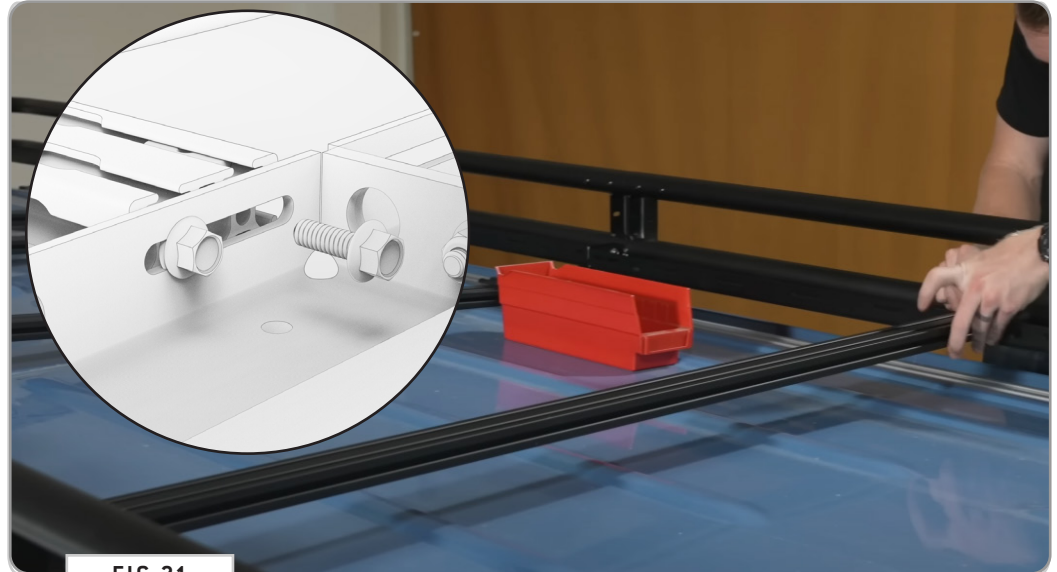
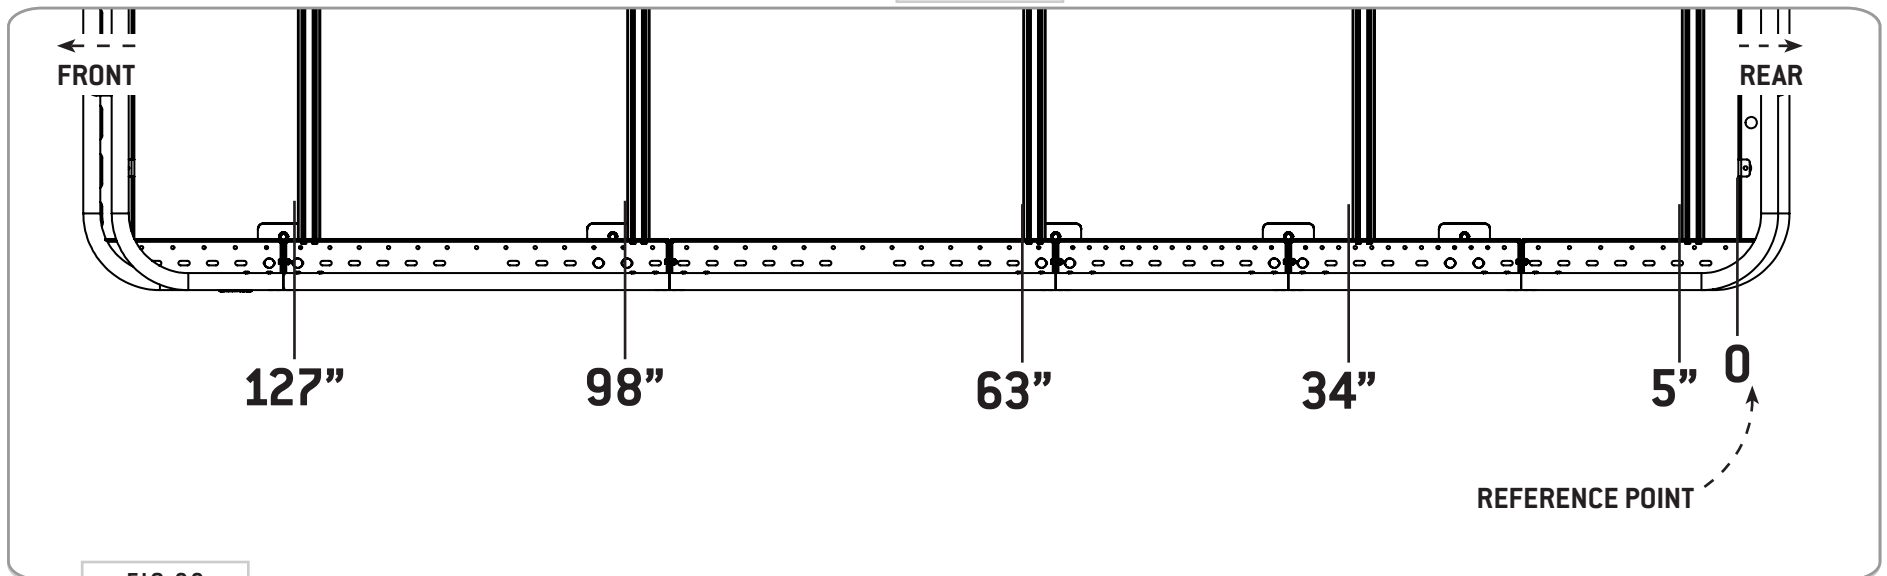

FIG 21
FIG 22
9.1 Attach Crossbars: Using [4ea] 1/4-20 Flanged Hex Bolts with Loctite (FIG 21), attach Crossbars to the rack in the locations shown in FIG 22. Be sure to measure both sides to ensure that the crossbars are square.